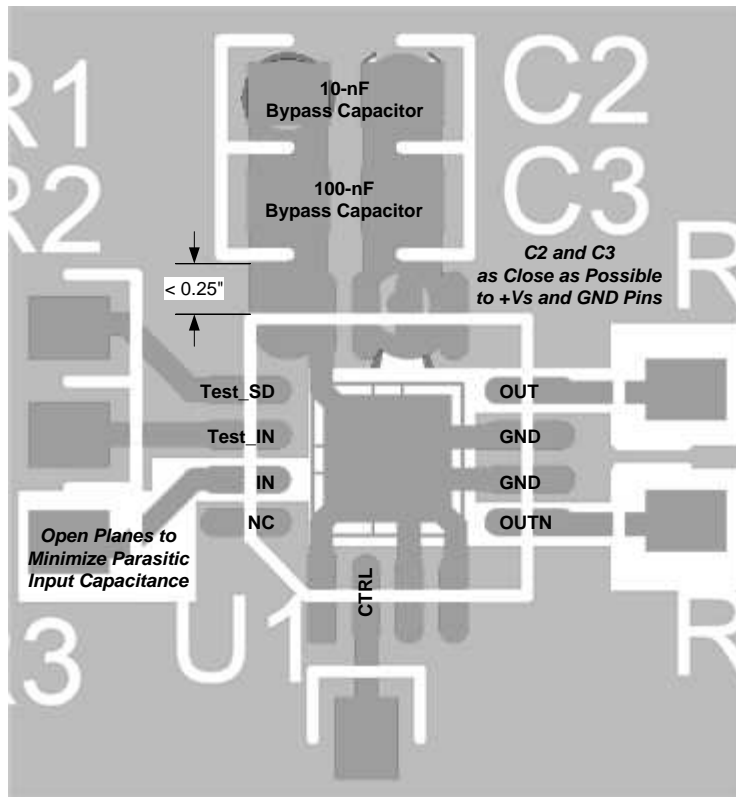

Figure 48. Layout Example
- b. **Minimize the distance** ($< 0.25"$) from the power-supply pins to high-frequency $0.1\text{-}\mu\text{F}$ decoupling capacitors, as shown in Figure 48. At the device pins, make sure that the ground and power-plane layout are not in close proximity to the signal I/O pins. Avoid narrow power and ground traces to minimize inductance between the pins and decoupling capacitors. Always decouple the power-supply connections with these capacitors. An optional supply decoupling capacitor ($0.1\ \mu\text{F}$) across the two power supplies (for bipolar operation) improves second-harmonic distortion performance. Use larger ($2.2\ \mu\text{F}$ to $6.8\ \mu\text{F}$) decoupling capacitors, effective at lower frequencies, on the main supply pins. These capacitors can be placed somewhat farther from the device and can be shared among several devices in the same area of the PC board.